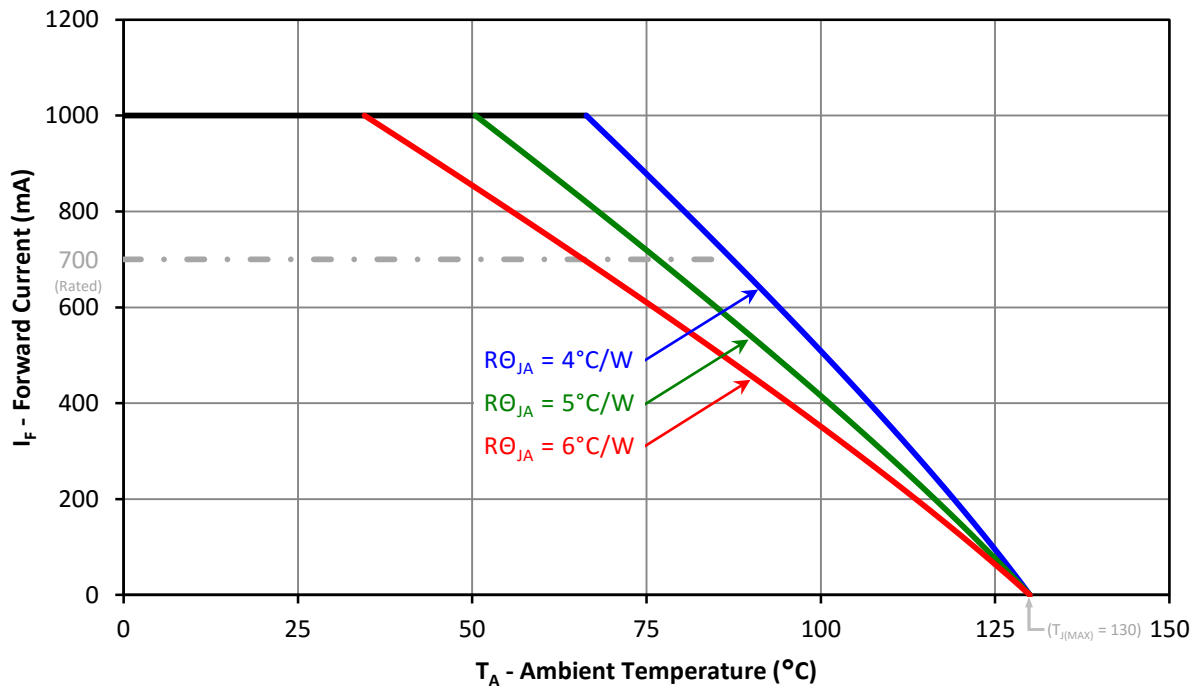

Figure 11: Maximum forward current vs. ambient temperature based on $T_{J(\text{MAX})} = 130^\circ\text{C}$
- Maximum DC forward current is determined by the overall thermal resistance and ambient temperature. Follow the curves in Figure 11 for current derating.